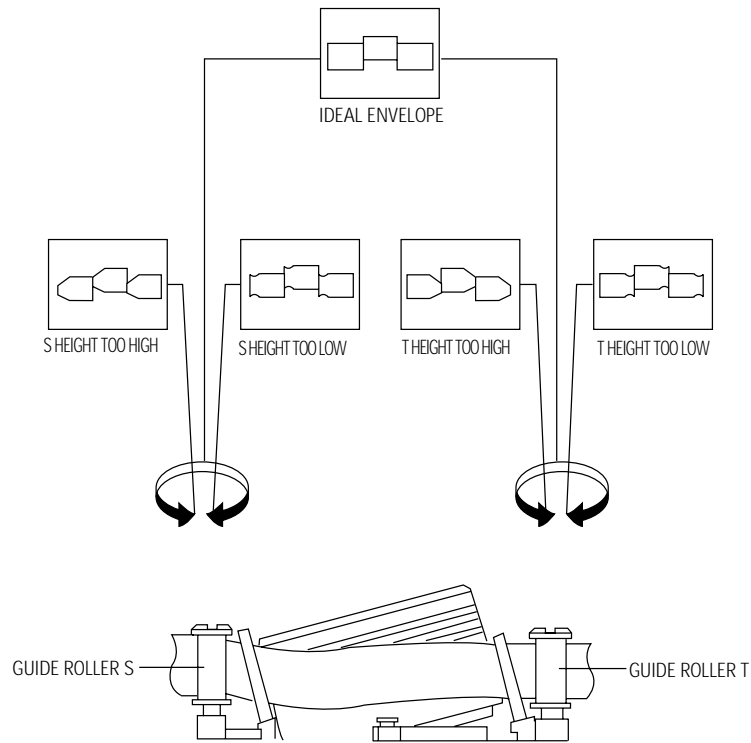

Fig. 6-16 Guide Roller S, T Height Adjustment
- 8) Turn the guide roller heads with a flat head () driver to obtain a flat video RF envelope as shown in Fig. 6-16.